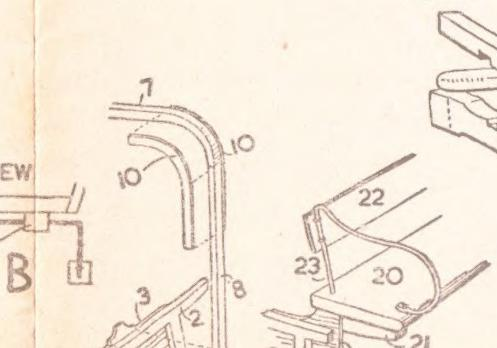

Fig. 2—Hood support
The canopy itself is merely a stiff paper covering supported on cross framework. These supports are shown in Fig. 2 and the direction of grain should be noted in parts 7, 8 and 9. 7 and 8 form the top and side, and then a strengthening piece (10) is added round the angle each side to stiffen up (see Fig. 2). The base of Part 8 is glued on the side. The rear upright (9) is dealt with in the same way. A study of the side and front view will help right through the construction.